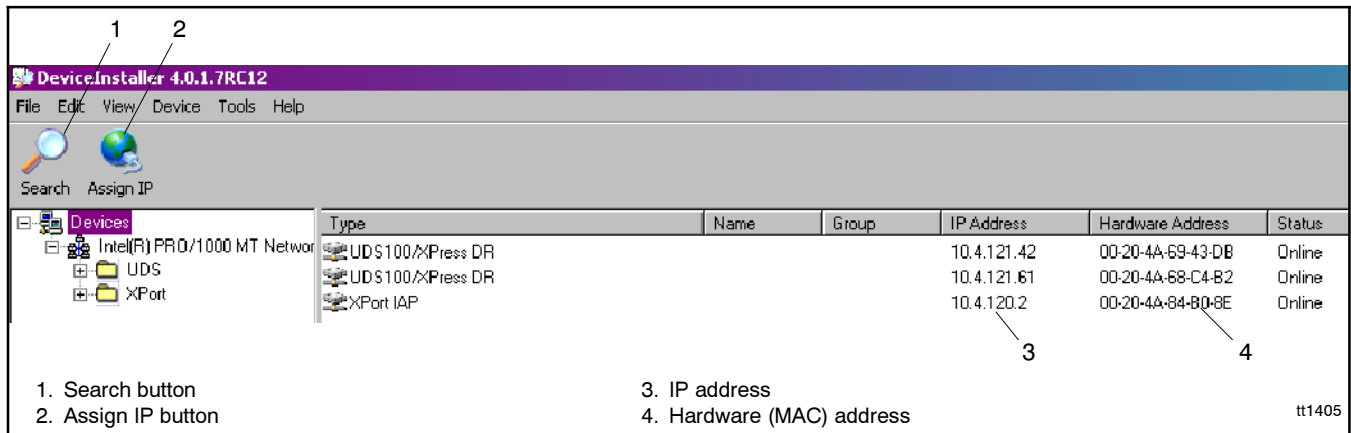

Figure 33 DeviceInstaller Opening Screen
3. Click the button labeled *Search* on the left side of the DeviceInstaller toolbar. It has a picture of a magnifying glass. See Figure 33.
- b. Click the button labeled *Assign IP* in the DeviceInstaller toolbar. It has a picture of a globe with a plug in it. See Figure 33.
- a. Click once on the line of the device to be changed. It should become highlighted. See Figure 33. If you accidentally double-click a dialog box will appear. Click the *Cancel* button to close it.